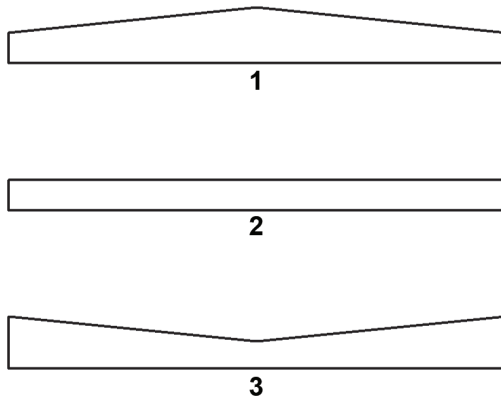

Figure 4-58. Crown Settings
- Positive crown is when the middle of the mat is raised to permit water to drain to each side. **(Figure 4-58)**
- Negative crown is the lower in the center of the screed plate, often used in an alley where drainage is necessary. **(Figure 4-58)**